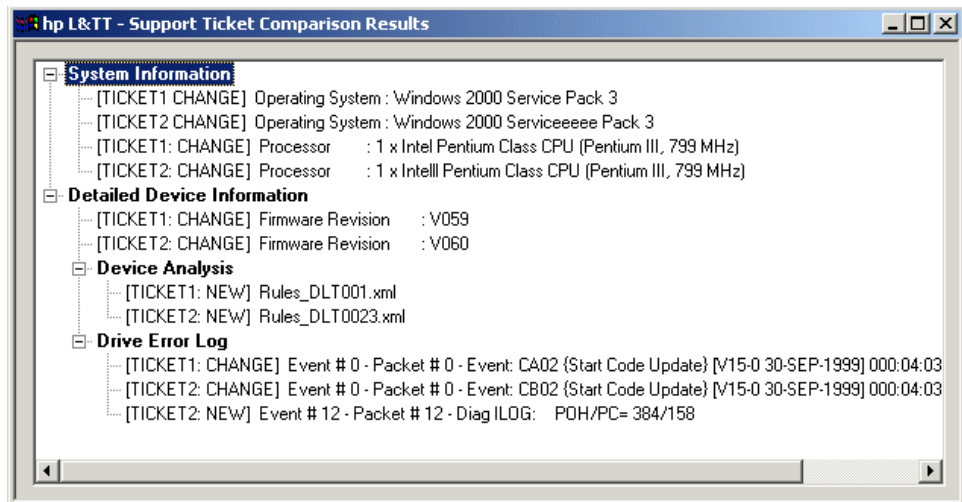

Figure 27: Support ticket comparison results
3. Select the support ticket to which you want to compare and click **Open**. The comparison results are displayed in a separate window as shown in Figure 27.